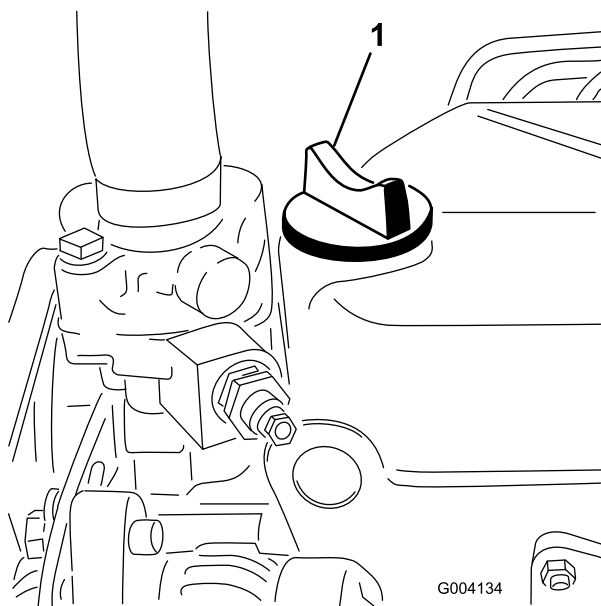

Figure 17
5. If the oil level is below the Full mark, remove the fill cap (Figure 17) and add oil until level reaches the Full mark on dipstick.